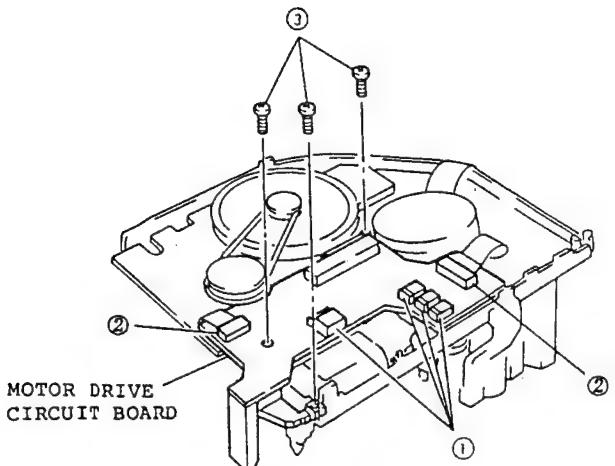

Fig. 2-62
1. Disconnect five (5) connectors (CN554, CN555, CN556, CN557, CN558). (See Fig. 2-62)
2. Disconnect two (2) flat cables (CN552, CN553).
3. Remove three (3) screws holding the motor drive circuit board.
(See Fig. 2-62)